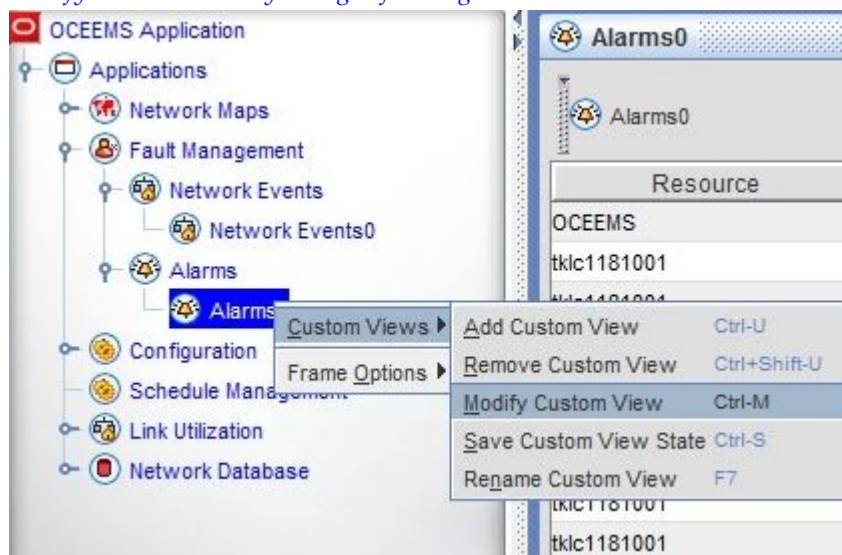

Figure 124: Modify Custom View By Using Left Navigation Pane
- Right-click on the custom view node under the Network Events or Alarms node in the left navigation pane, and choose **Custom Views > Modify Custom View** as shown in Figure 124: Modify Custom View By Using Left Navigation Pane.